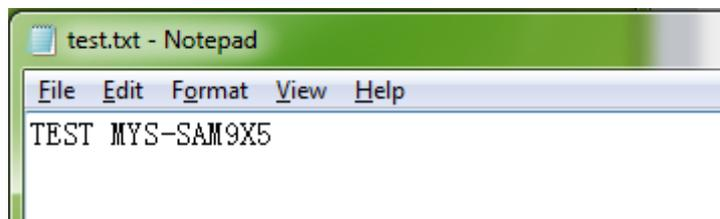

Figure 3-31
(2) Send a txt document. Build a text document and send it. Refer to figure 3-31 and